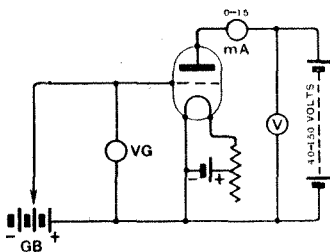

Fig. 3. The connections of the apparatus required when finding the figures for the characteristic curves of Figs. 2 and 3.
These curves may be obtained in the following simple manner. Connect in the anode circuit of the valve (Fig. 3) a milliammeter mA, reading up to, say, 10-15 milliamperes, and a dry cell battery of known voltage V . In the grid circuit connect a few cells (GB) so that the grid voltage, as read by the voltmeter VG, may be varied between, say, 15 volts negative and a few volts positive. Adjust the filament current to its normal value, and fix the anode voltage at, say, 40 volts. Then read off the anode current for various grid voltages, and tabulate the results. The results may be plotted to give a curve such as those of Fig. 2 by marking off on squared paper the anode current corresponding to the grid voltages, and drawing a line through the points.